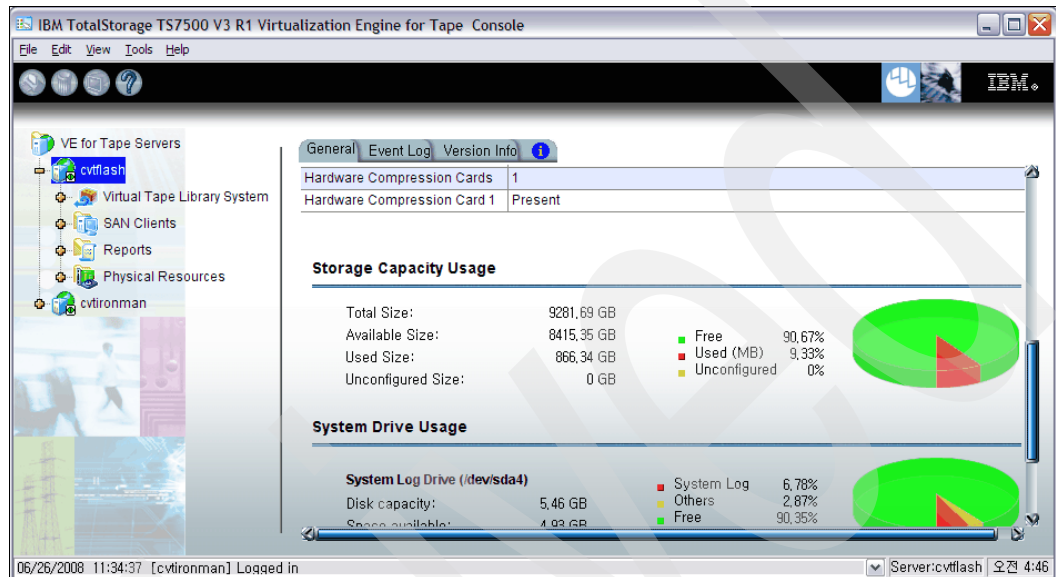

Figure 6-22 TS7530 VE for Tape Console Status window
- If the connection is successful, you can see the current status of the TS7530 VE for Tape Server that you added displayed as shown in Figure 6-22. You are presented with an overview of the hardware installed on your TS7530 VE for Tape Server at the top of the scrollable area. If you scroll to the bottom of this area, you can review current system drive usage. Of course, you can see some important information like IP addresses, the number of hardware compression cards, and so on.
On the top left of the window (Figure 6-22) you can locate the name of the TS7530 VE for Tape Server name. In our example, the TS7530 for Tape Server names are `cvtf1ash` and `cvtironman`, as detailed in Figure 6-23. These example systems are configured as a high-availability (HA) configuration.